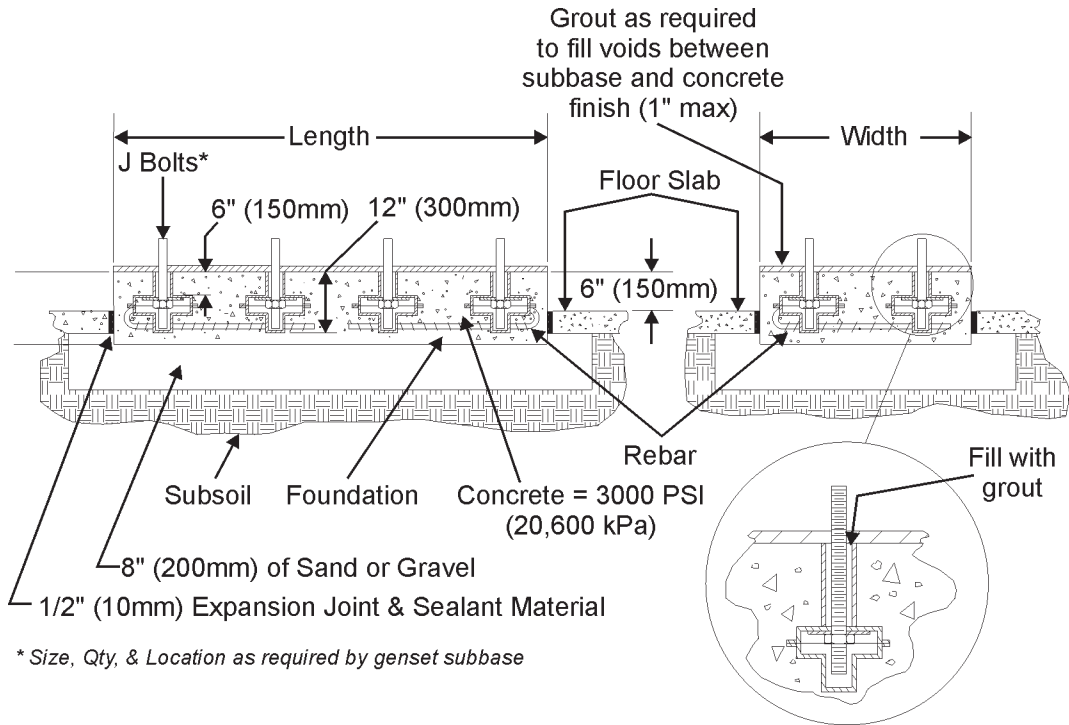

Figure 6. Typical Foundation
When mounting the genset on a foundation to reduce the transmission of vibrations to the building, the weight (W) of the foundation should be at least 2 times the weight of the genset itself to resist dynamic loading. Figure 6 on page 34 illustrates a typical vibration isolating foundation.
Figure 6 below shows the typical foundation installation.